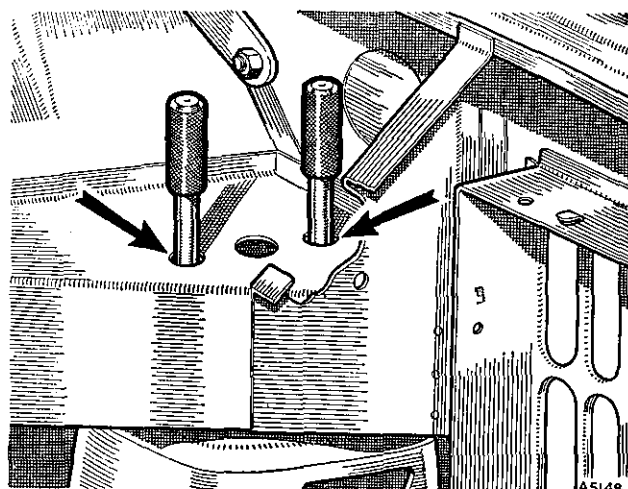

Fig. R.6
Insert the four pins (12) through the holes in the body and into the holes in the top faces of the front checking frame. Check the relation of the holes in the body to the plain shank of the checking pins. The ideal position is when each of the holes in the body is concentric with the shank of its checking pin (see Fig. R.6). Adjust the body on the jig until this position, or the nearest possible approach to it, has been attained.